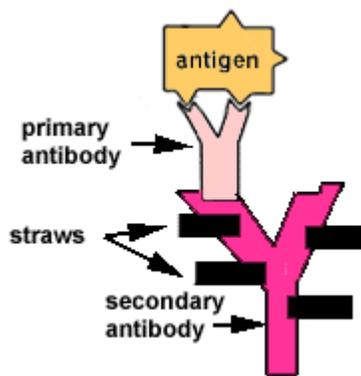

FIG. 7. Enzyme-labeled secondary antibody.
I. Enzyme-labeled secondary antibody packet. Prepare four Y-shaped IgG antibodies made of sponges as above, but cut shapes in the variable regions so they will interact with the Fc region of the Positive Control and Patient "A" antibodies. Glue appropriately placed Velcro on to these secondary antibodies (in the variable, antigen-binding regions). Insert straws into the Fc region of this sponge to represent bound enzyme. Straws may be glued into place or attached using Velcro (Fig. 7). Place in a plastic bag labeled "Secondary Antibody".